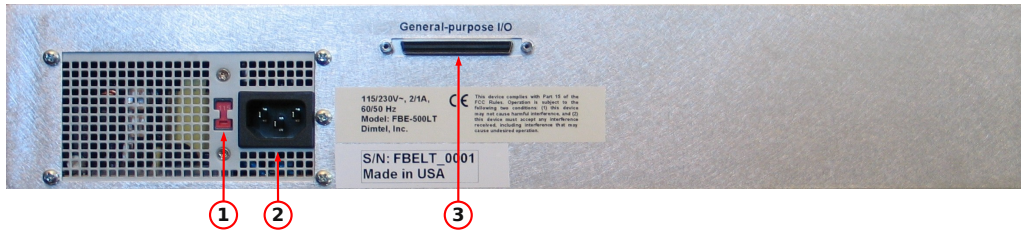

Figure 3: Rear panel features
WARNING: Before connecting power to the unit make sure the voltage selection switch (Fig. 3, item 1) is in the correct position (115 or 230 V).
1. Configure voltage selection switch (Fig. 3, item 1). Mains supply requirements for the FBE-204LT are listed in Table 4;
9. Using the supplied 68-pin **GPIO** cable connect the iGp/iGp12 interface (Fig. 3, item 3) to the **GPIO** connector on the iGp/iGp12;